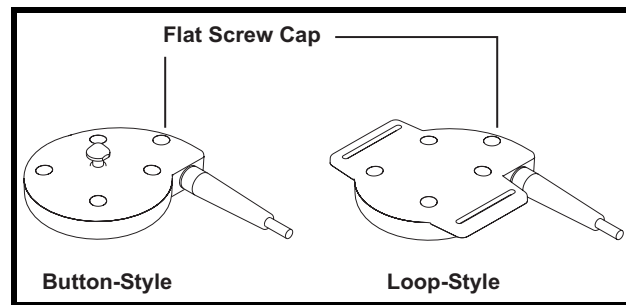
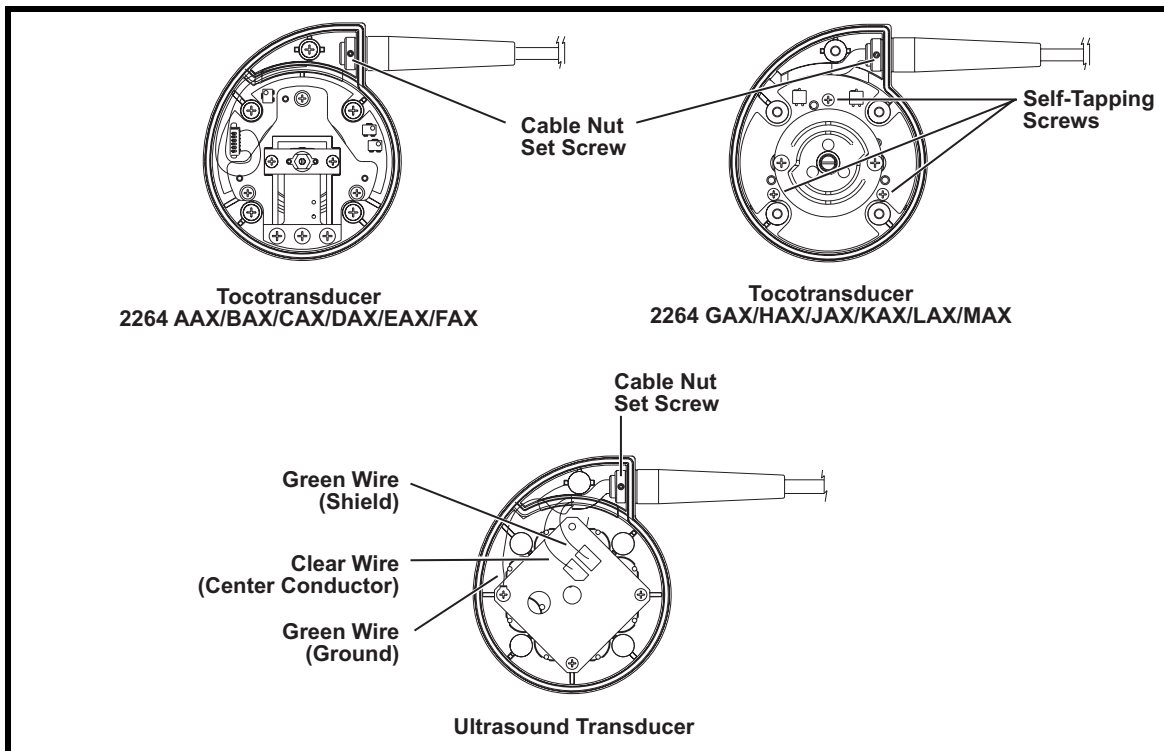

Figure 7-5. Sealing Screw Caps
Figure 7-6. Nautilus Transducers—Cover Removed
Refer to Figure 7-5 and Figure 7-6 while using the cable replacement kit.
2. Use the screw cap extraction tool to pry off the five screw caps (Figure 7-5). Discard all caps.
5. Remove the cable connector according to the transducer type (Figure 7-6):
10. Connect cable according to transducer type (refer to Figure 7-6):
- a. Solder the green and clear cable wires to the PC board (Figure 7-6).